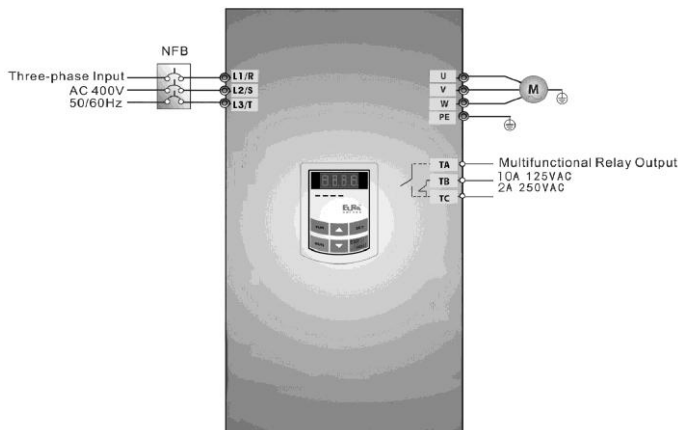

Figure 4-1 Wiring Diagram 1
- (1) Connect the wires in accordance with Figure 4-1. After having checked the wiring successfully, switch on the air switch, and power on the inverter.
- (2) Press the “Fun” key, to enter the programming menu.
- (3) When F137=3, measure the parameters of motor stator resistance parameter. When F137≠3, go to step 4.
- (1) Connect the wires in accordance with Figure 4-1. After having checked the wiring successfully, switch on the air switch, and power on the inverter;
(2) Press the “Fun” key, to enter the programming menu.
(3) Study the parameters of the motor: the operation process is the same as that of example 1.
(4) Set functional parameters of the inverter: